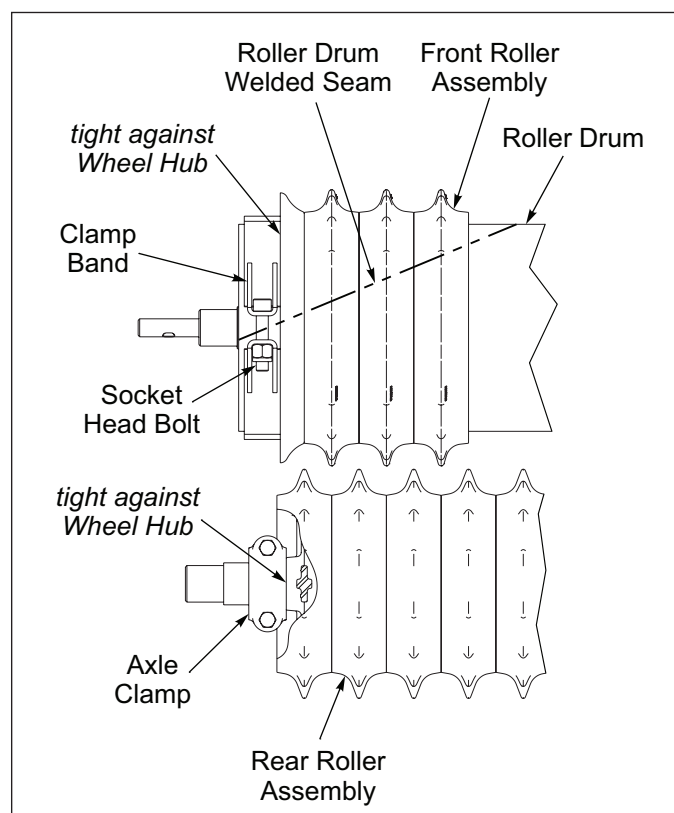

Figure 4-2: Roller Wheels
2. Position the Clamp Band Socket Head Bolt (Clamp Band open section) over the weld seam on the Roller Drum. **See Figure 4-2.**